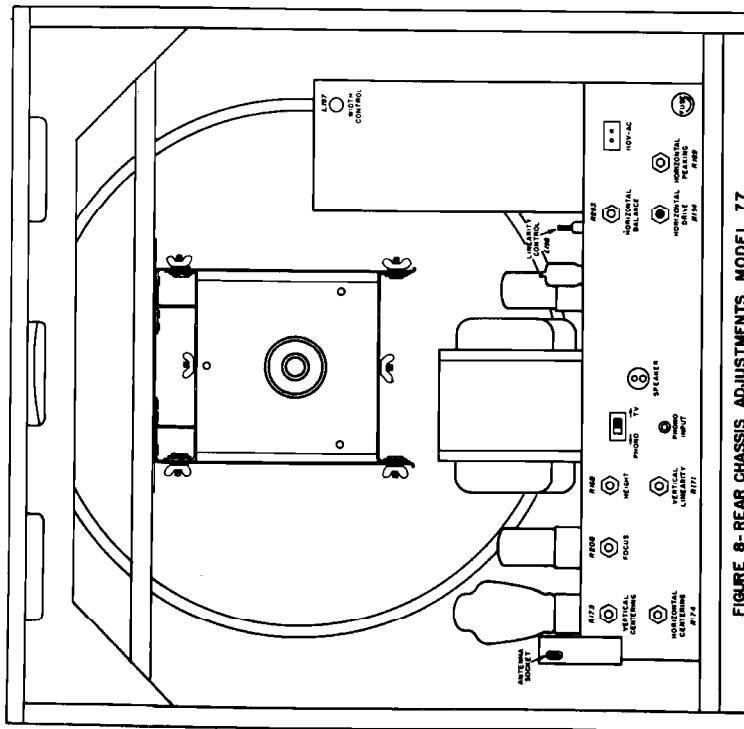

FIGURE 8-BEAB CHASSIS ADJUSTMENTS MODEL ZZ
5. Vertical Height and Linearity Adjustments (See Fig. 8)
6. Final Focus Adjustments (See Fig. 8)
Horizontal Balance (See Fig. 8)